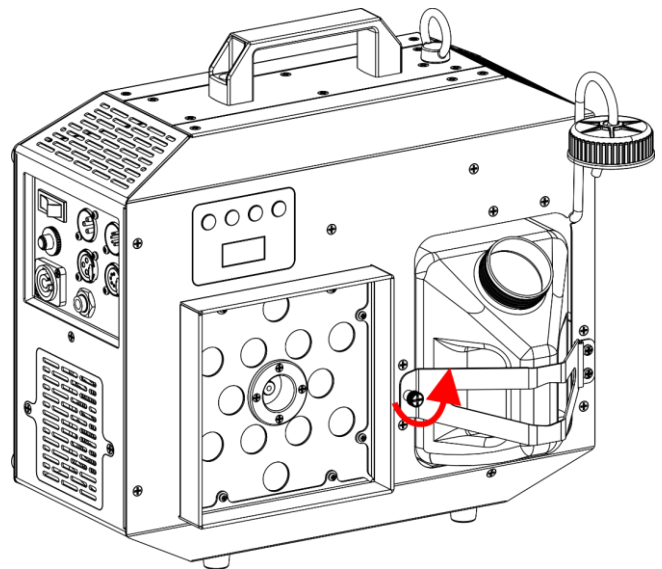

Fig. 07
- 02) Unscrew the **safety screw for tank bracket (04)**, as shown in Fig. 07.